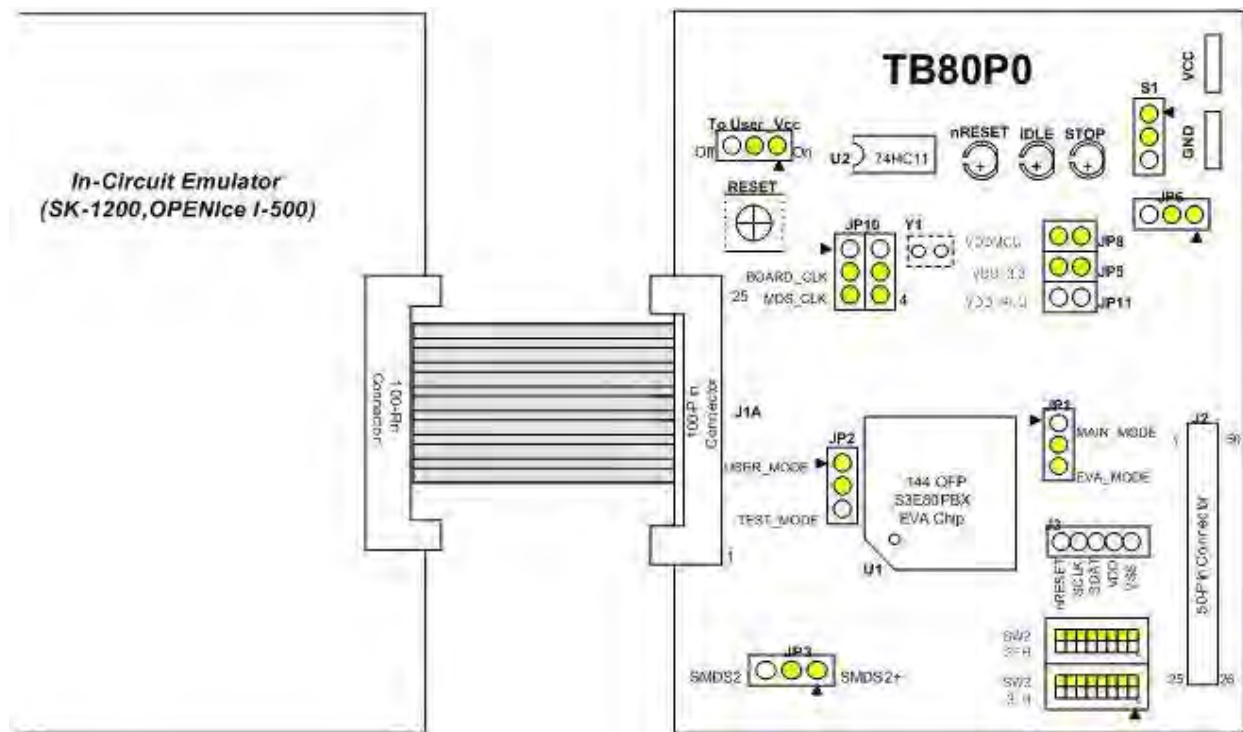

Figure 103. TB80P0 Target Board Configuration
Figure 103 shows how the TB80PB Target Board is configured. In Figure 103, the ◀ symbol marks the starting point of the jumper signals.
1. The TB80P0 target board should normally be supplied 3.3 V. For target board operation, the power supply from the emulator should therefore also be set to 3.3 V. If the power supply from the emulator is set to 5 V, activate a 3.3 V regulator on the target board by setting the related jumpers shown in Figure 103.